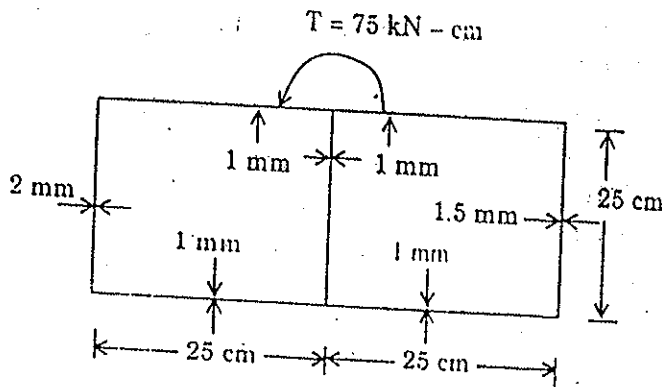

Fig. 4
- (b) Find the shear flow and twist per unit length of the two cell structure shown in Fig. 4. The material used is Aluminium with $E = 70$ GPa and Poisson's ratio = 0.3.